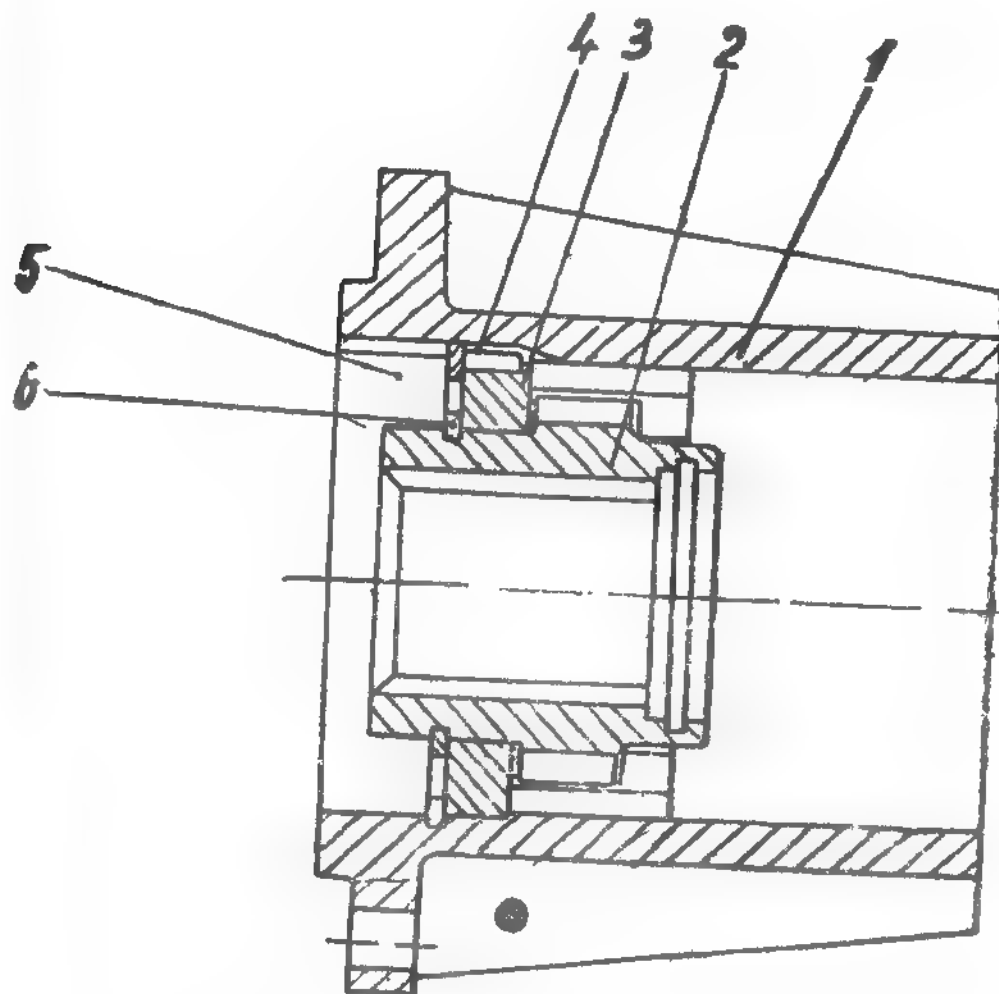
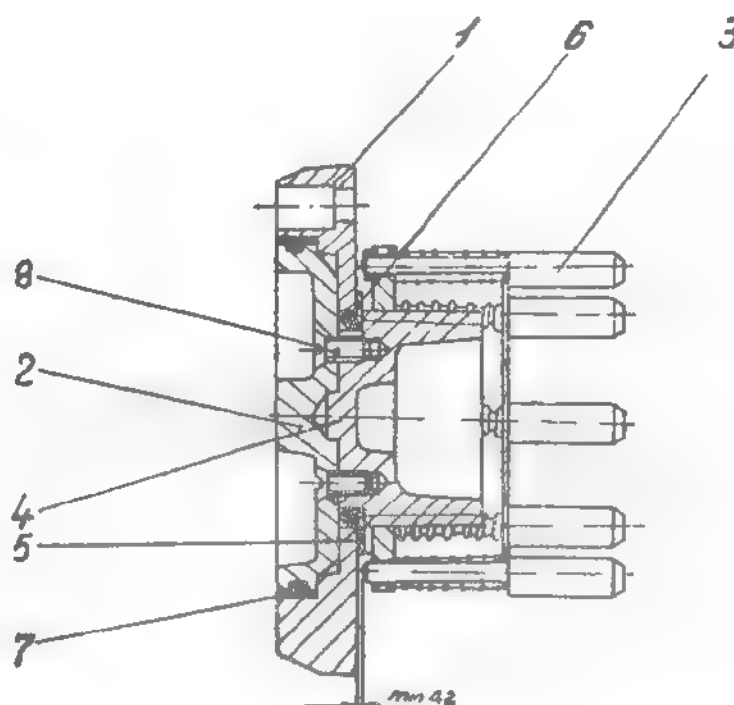

Fig. 4.125. FREE WHEELING HUB MECHANISM BODY ASSY
Fig. 4.126. CONTROL MECHANISM ASSY
- The hub body (1)
- Slotted hub (2)
- Bronze bushing, immobilized in the hub by a parallel key (4) - see Fig. 4.125 - and a hub locking ring (5).
- Wheel driving mechanism, (see Fig. 4.126), consisting of;
- Engaging mechanism (3)
- Threaded bushing (4)
- Control disc (2)
- Cover and its fastening elements (1).
- For replacing the slotted hub (2) - see Fig. 4.125 - remove from the hub groove the lock ring (6), using adequate pliers and remove the hub.
- For removing the threaded bushing remove from the hub body groove the lock ring (5) and the parallel key, (see Fig. 4.125).
- Fit firstly the slotted bushing and the key in the hub body, securing it with the lock ring (5).
- After securing the bushing fit over it the friction washer (5) - see Fig. 4.126 and fit the slotted hub inside the bushing, securing it with the lock ring (6) - see Fig. 4.125 -, using an adequate pliers.
- before fitting the cover (1) and control disc (2) smear the surfaces for O-ring seals with above mentioned grease.
- Fit the threaded bushing collar, the washer and the O-ring seal (see Fig.4.126).
- Smear with UM 175 Li Ca Pb 3 grease (or equevalent one) the driving mechanism fingers of the hub fitted inside the hub body (1) - see Fig. 4.125.